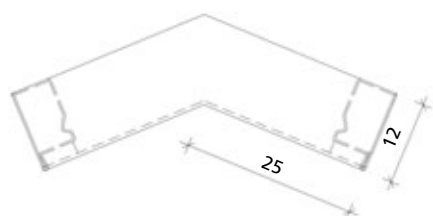

Fig. 19.1 Outside corner 135°
■ Outside corner 25 cm (Fig. 19.1)